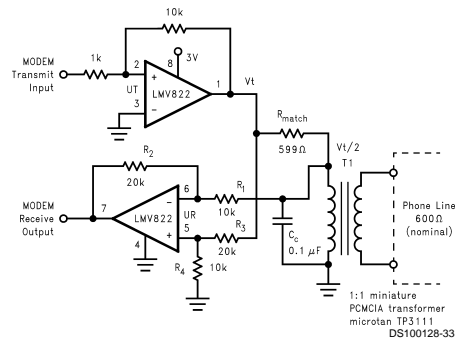

FIGURE 7. Telephone-line Transceiver for a PCMCIA Modem Card
The telephone-line transceiver of Figure 7 provides a full-duplexed connection through a PCMCIA, miniature transformer. The differential configuration of receiver portion (UR), cancels reception from the transmitter portion (UT). Note that the input signals for the differential configuration of UR, are the transmit voltage (V_T) and $V_T/2$. This is because R_{match} is chosen to match the coupled telephone-line impedance; therefore dividing V_T by two (assuming $R_1 \gg R_{match}$). The differential configuration of UR has its resistors chosen to cancel the V_T and $V_T/2$ inputs according to the following equation: